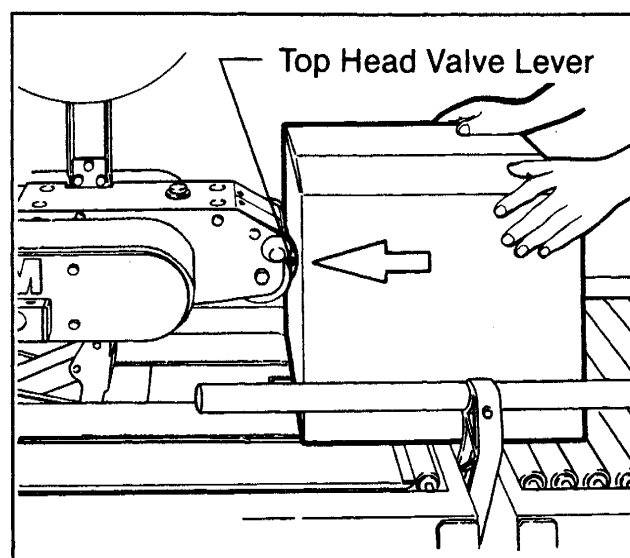

Figure 13 - Top Taping Head Valve Lever
2. Once the box is centered by the side guides, the operator pushes the box against the valve lever on the top taping head, as shown in Figure 13, causing the top taping head to be raised by two air cylinders. The top taping head will continue to rise above the box height so the operator can insert the box underneath the top taping head drive belts.